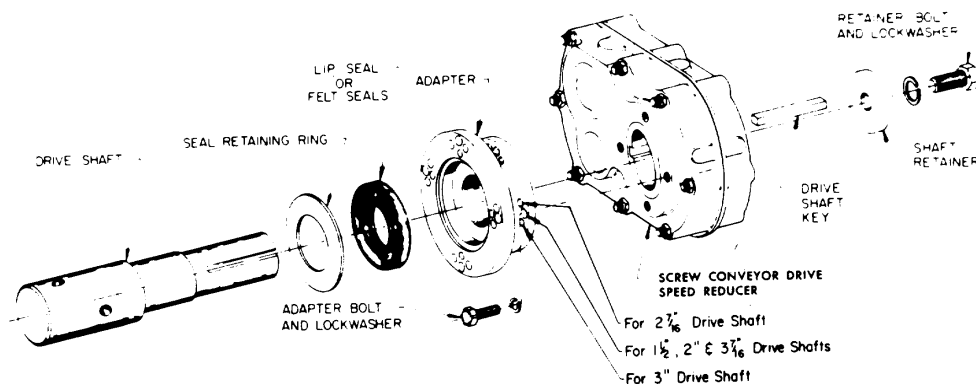

Fig. 1-Assembly.
2. Position adapter on reducer output hub so that small end (end with 12 holes) rests on reducer. Select the 4 mounting holes to match the shaft used (See Fig. 1). **Note: "A" adapters used on SCXT1 and SCXT2 reducers with 1-1/2" drive shafts have only 4 holes on the small end.**
Note: If reducer position is to vary from those shown in Figure 1 with more or less oil may be required. Consult factory.